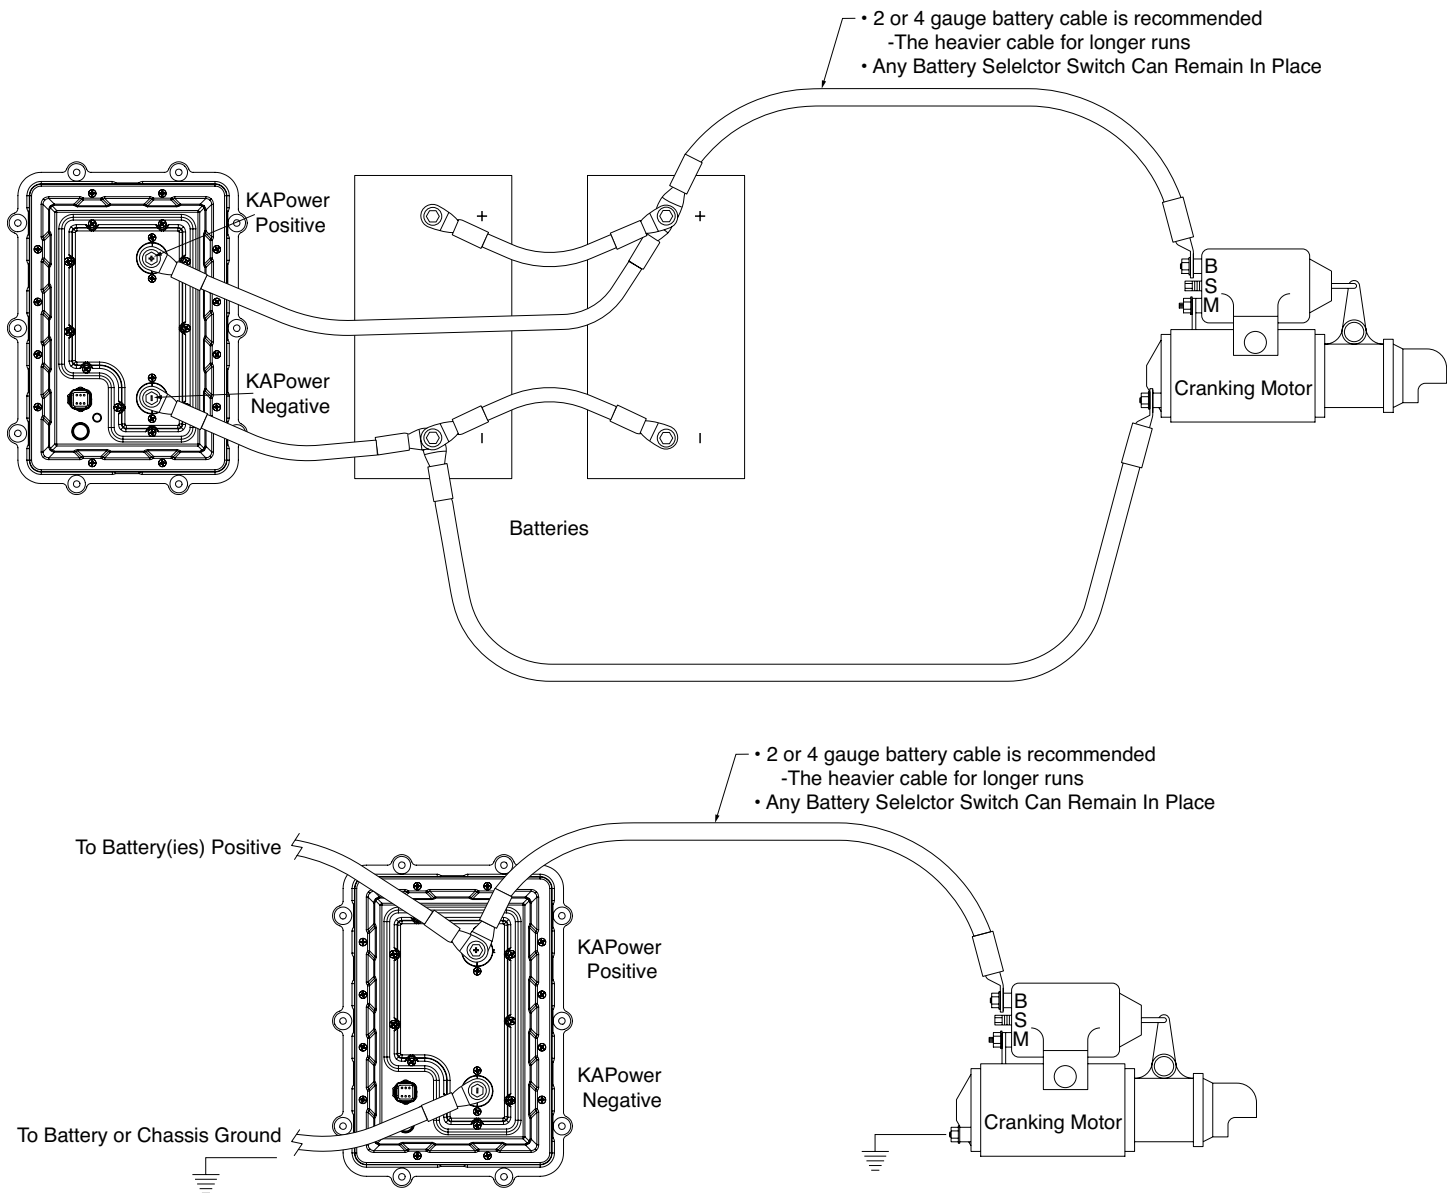

Figure 1: Typical Cable Installations
1. Before activation, confirm all wires are properly configured using the wiring diagrams on Figure 1, 4, & 5, 5A or 5B.